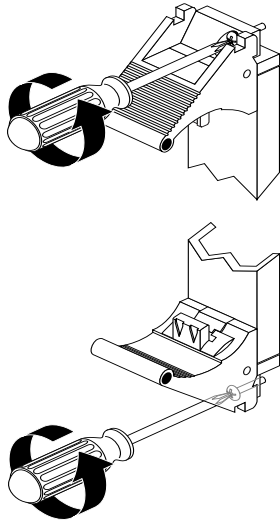

FIGURE 10-2 Loosening the Ejection Lever Captive Screws
- 5. Using a No. 1 Phillips screwdriver, loosen the two captive screws inside the card's ejection levers, one on top and one on the bottom (FIGURE 10-2).**
- a. Using a No. 2 Phillips screwdriver, loosen the two captive screws inside the card's ejection levers, one on top and one on the bottom (FIGURE 10-2 on page 10-4).**